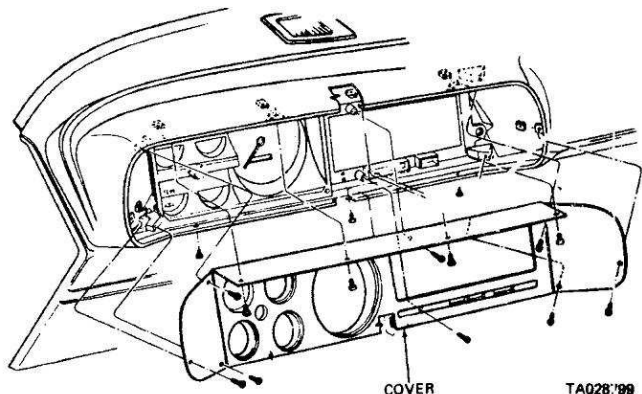

Figure 2-50. Removing the Panel Cover.
(1) Disconnect the negative (ground) cable at the battery.
(2) Remove the mounting screws along the lower edge of the panel cover (figure 2-50).